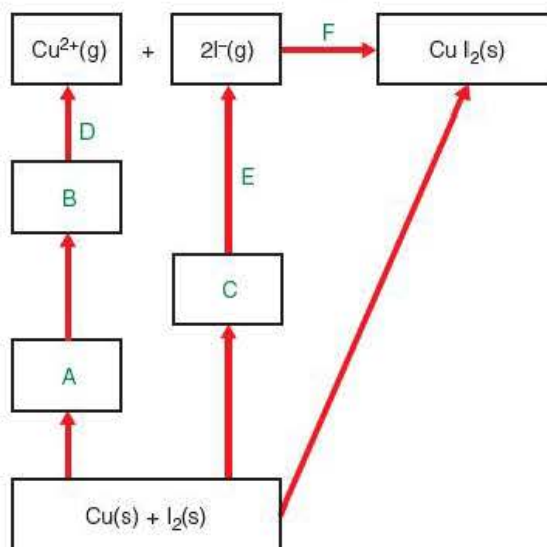

Figure 4.40 ▲
- a) Use the outline of the Born–Haber cycle for copper(II) iodide in Figure 4.40 to:
- c) Use Figure 4.40 and the data supplied to calculate the enthalpy change of formation of copper(II) iodide. Give a sign and units in your answer. (3)
d) When the lattice energy of copper(II) iodide is calculated from ionic radii and charges, the result is about 14% smaller than the one obtained from the Born–Haber cycle.
i) What does this suggest about the nature of the bonding in copper(II) iodide? (1)